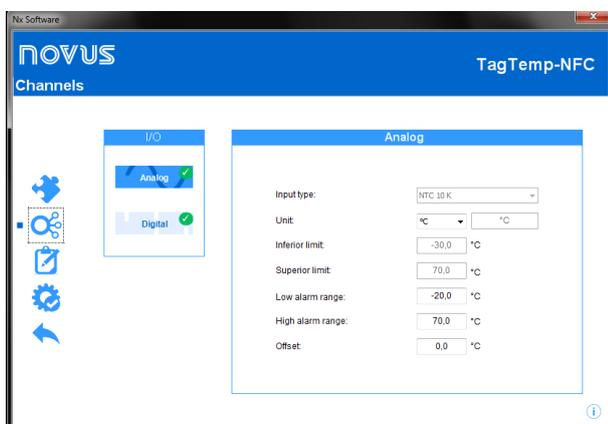

Fig. 29 – Channels Screen
**Security:** This option allows you to create, change or delete a password. The password must be four digits long. Fig. 29 shows the definition and password change screen.